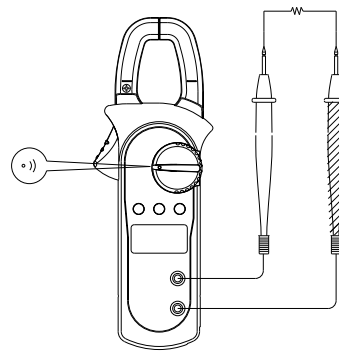

Figure 7
5. Conductance detection (·)) (shown in Figure 7)